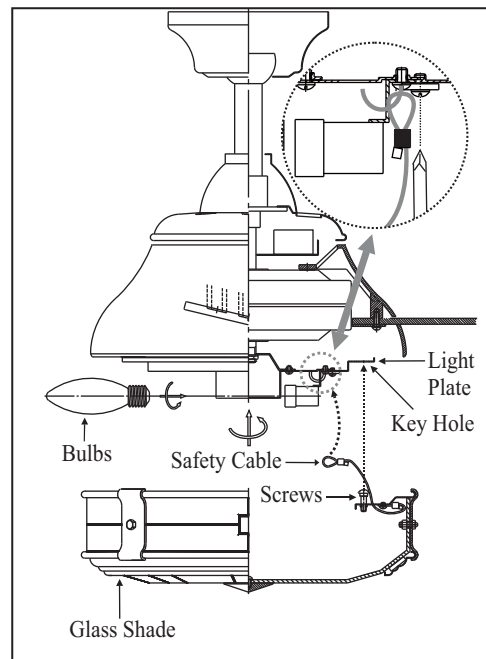

Figure 16
4. Install 3 x 40W candelabra light bulbs (included). (Figure 16)
6. Place the 3 screws already installed inside the glass shade over the key holes on light plate at the wide section of the key holes. Turn glass shade until the screws lock in place at the narrow section of the key holes. (Figure 16)